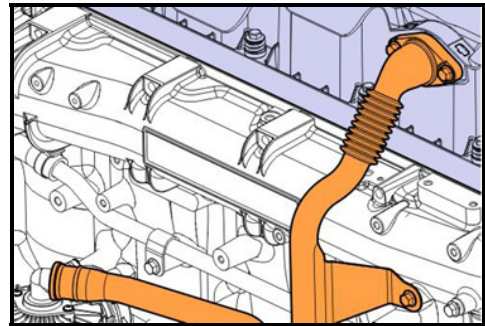

FIGURE 5
5. Remove the crankcase ventilation tube from the valve cover (fig.5) and crankcase ventilation separator.